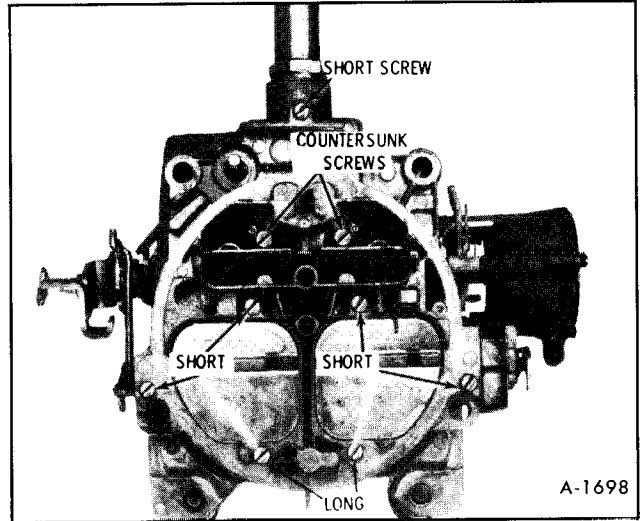

Figure 13-Air Horn Attaching Screws
5. Remove nine air horn to bowl attaching screws; two attaching screws are located next to the primary venturi. (Two long screws, five short screws, two countersunk screws.) See Figure 13.